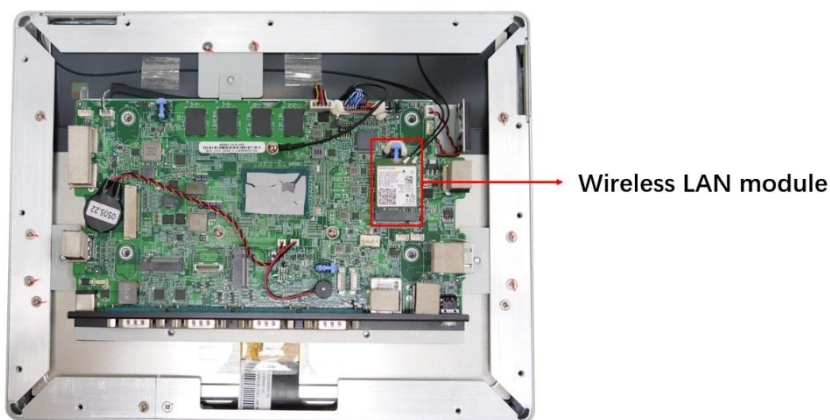

Figure 4-1: WLAN Module Location
- Step 4:** Locate the WLAN module (**Figure 4-1**).